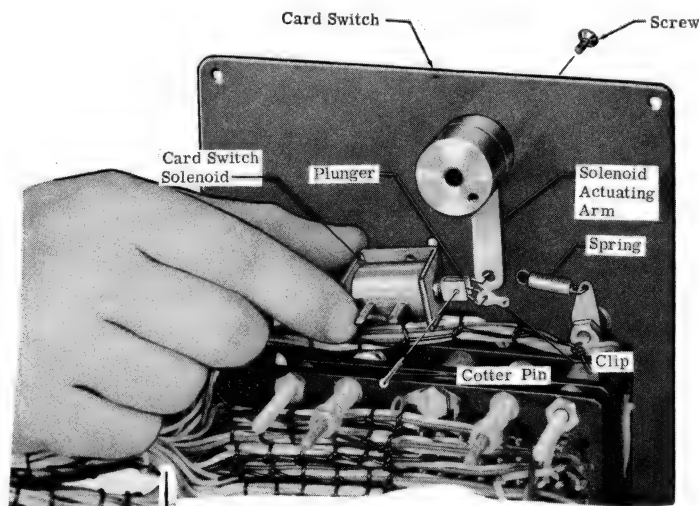

Figure 18 - Replacing Card Switch Solenoid
6. 22 Replacement of Card Switch Solenoid. (See Figure 18). Unsolder leads to terminals on solenoid. Disengage spring from clip on plunger and remove cotter pin and clip. Remove screws from face of panel and disengage solenoid from solenoid actuating arm. Install new solenoid and reconnect associated parts in the reverse order of removal.